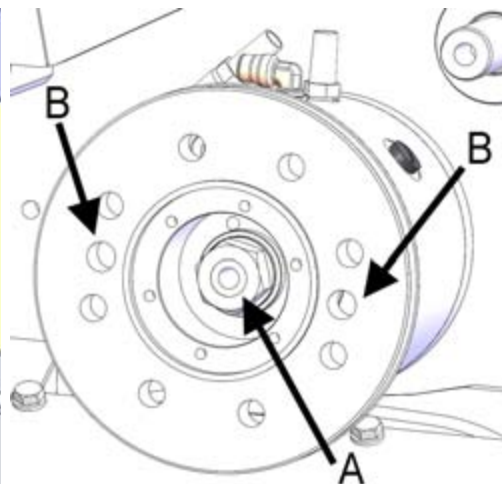

Figure 4. Coupling flange fastening nut
If you need to replace the entire bearing, including the shaft, you can leave the coupling flange in place and remove the bearing housing screws through the holes on the coupling flange (figure 4, point B). However, this is not an option with older models that do not have the holes on the coupling flange.
3. Unscrew the nut (figure 4, point A) and use pliers to remove the washer under the nut. Pull the coupling flange out of the cone with a sturdy extraction tool.